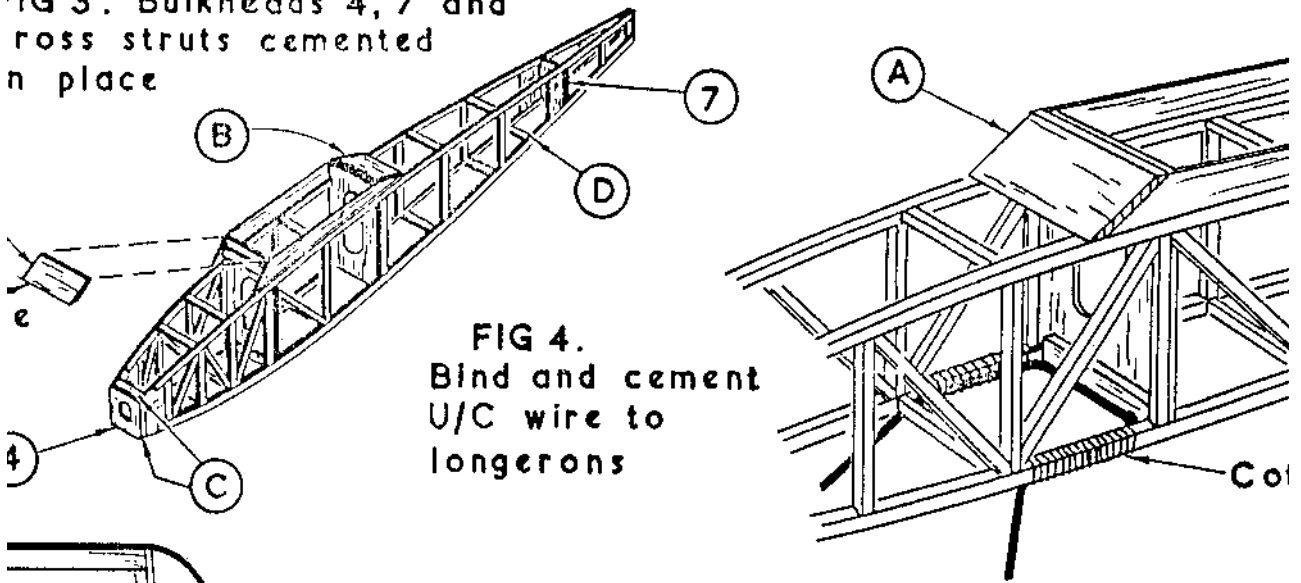

FIG 4. Bind and cement U/C wire to longerons
Strips of spare $1/16$ in. sheet are cemented to all bulkheads to stiffen them. When dry, assemble bulkheads (5) and (6) to the fuselage sides, see Fig. 2. Next fit bulkheads (4) and (7), holding the assembly together with small elastic bands, and cement the fuselage together at the tail, Fig. 3. Cut cross-struts to length and cement in place. Cut parts A, B, C and D to shape from spare $1/16$ in. sheet, and cement them in place; finally cement part (8) in position. Then sandpaper lightly all over. Form the wire undercarriage, first to the shape shown on the drawing and then bend back the top as shown in the side view drawing. Then bind and cement it to the inside faces of the longerons, Fig. 4. Bend the wire to form the wheel axles at approx. 4in. down each leg from the fuselage. Fit the wheels and bend up the ends of the axles.